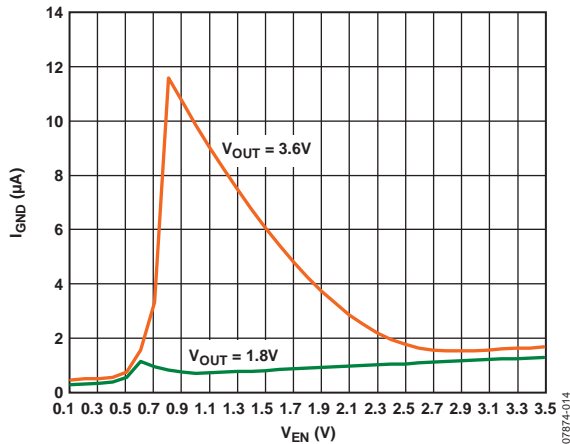

Figure 19. Typical Ground Current when $V_{EN} \neq V_{IN}$
The major source for ground current in the ADP190/ADP191 is the 4 MΩ pull-down on the enable (EN) pin. Figure 19 shows typical ground current when $V_{EN} = V_{IN}$ and V_{IN} varies from 1.2 V to 3.6 V.